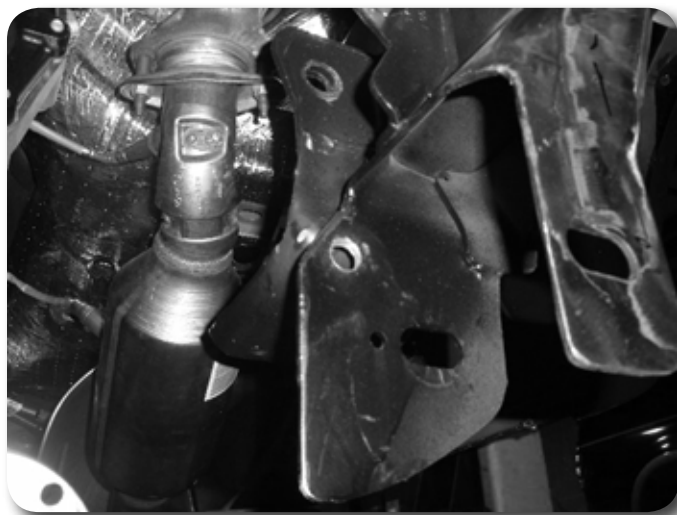

Figure 19
34. Connect the two lines and remove section as shown. (Figure 19)